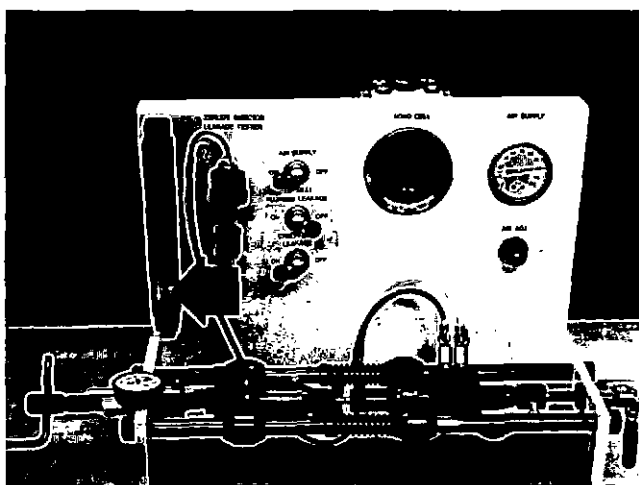

Fig. 4-15, (F60248). Read the flowmeter for check ball leakage
3. Observe the flowmeter, Fig. 4-15. If the reading exceeds 12 units of leakage (Service Limit) at 80 psi or 8.5 units at 60 psi, rework the seat. The ball and the seat must be wet with calibration fluid before the leakage test can be performed. In some cases, replacing the check ball is all that is required.